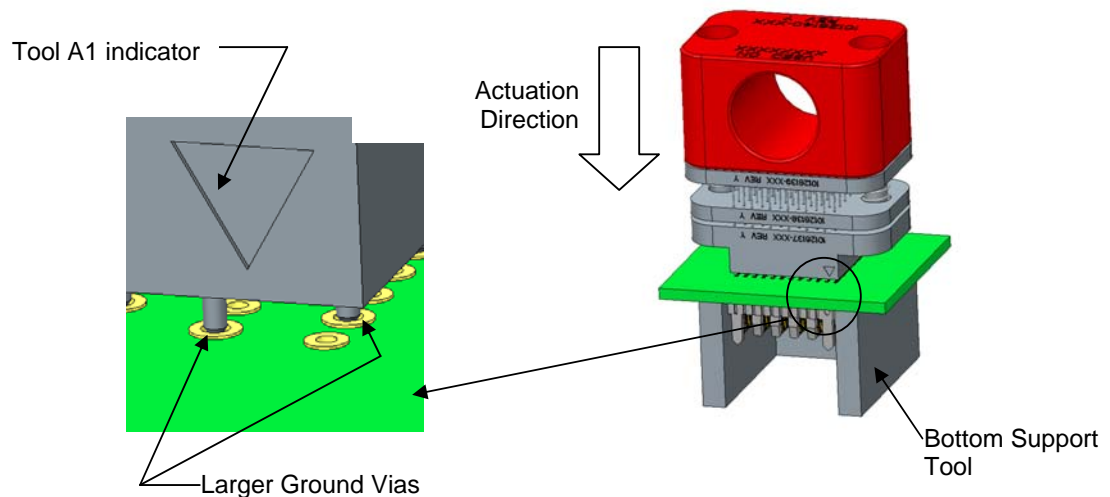

Figure 42: Removal Tool Procedure
- With the connector to be removed facing downward, place the board assembly over a bottom support tool (not included) that is appropriate for the board layout (see figure 42).